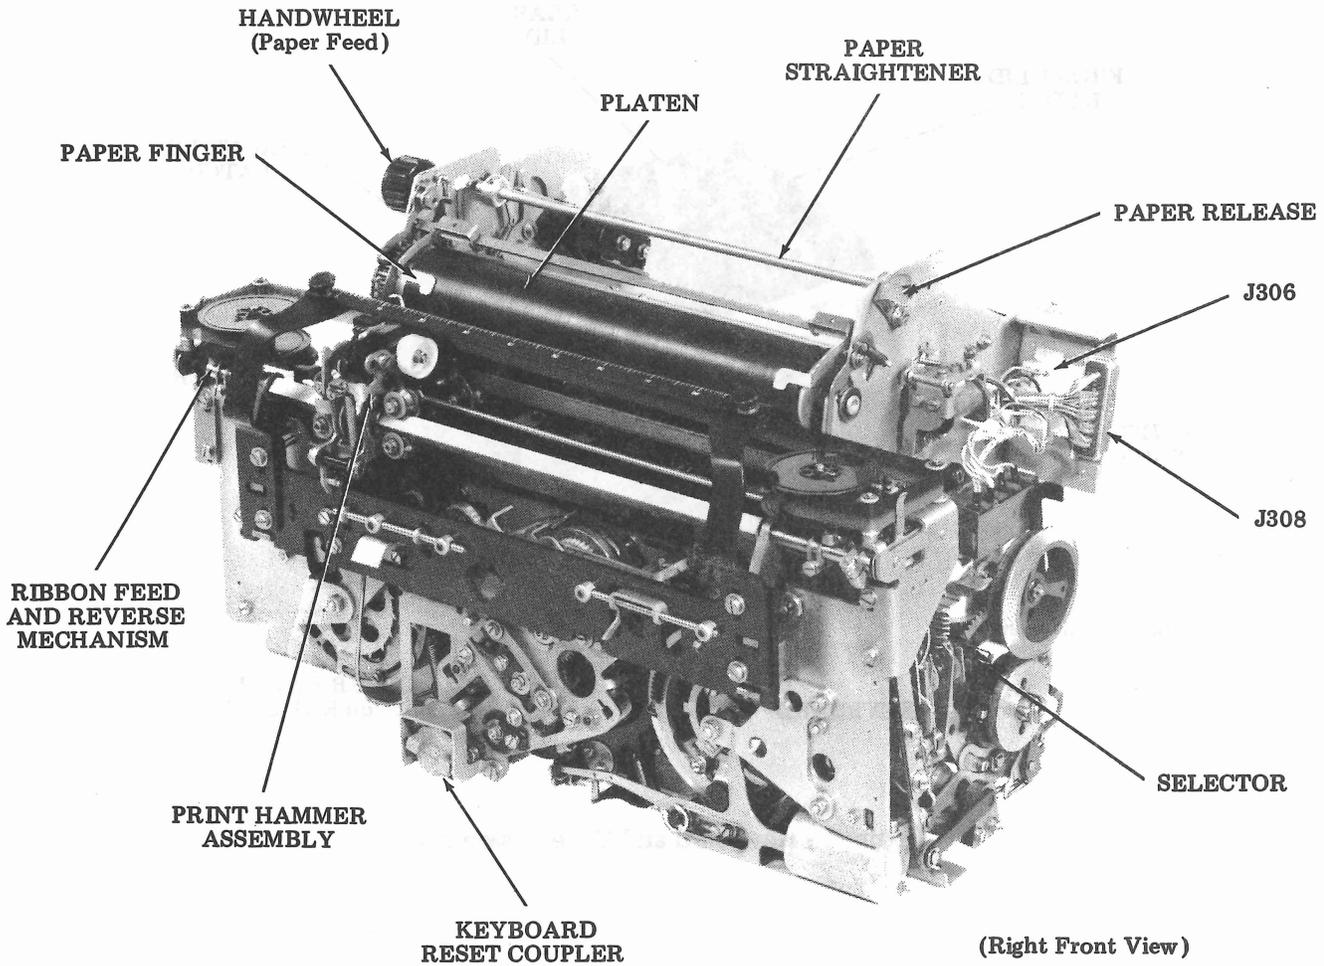

Figure 4 - 37 Typing Unit
2.06 Unpack the typing unit (Figure 4) from its carton and remove all packing material. The typing unit may be lifted by grasping the right side of the front plate and the rear curve under the left side plate. Do not lift any other way. Place the typing unit on its front plate on a flat surface allowing the shipping pallet to hang over the edge. Remove the shipping pallet from the typing unit. Remove the four shipping fasteners clipped to the feet of the typing unit. Remove the wire retainers that secure the print hammer assembly and the retraction reset slide, if present. Check the feed pawls and the ratchet wheel for packing detail. If detail is present, remove it when moving the print hammer assembly toward the left.
4.02 Locate the selector clutch on the right end of the typing unit main shaft, and locate the keyboard reset coupler (Figure 4) at the lower center front. Facing the right end of the typing unit, rotate the selector clutch drum in a counterclockwise direction until the lugs on the keyboard reset coupler are vertical.
4.03 Viewing the keyboard reset mechanism from the right side of the keyboard, rotate the mechanical reset shaft in a clockwise direction until the open slots, in the plastic universal joint member, are vertical to receive the lugs on the typing unit (Figure 4) keyboard reset coupler.